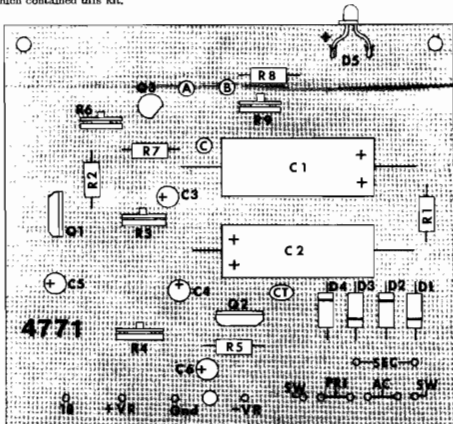

Figure 1 - Circuit board parts placement diagram
Solder each of the fixed resistors in place following the parts placement designators printed on the circuit board and the assembly drawing figure 1. Note that the fixed resistors are non-polarized and may be mounted with either of their leads in either of the holes provided. Insert both leads in the mounting holes and push the resistor **FULLY** against the board. On the conductor side of the board, bend the leads outward to about a 45 degree angle to help hold the component in place. **AFTER SOLDERING**, clip off each lead flush with the solder joint.
- () Install the LED. Note that, like other diodes, LEDs are very sensitive to heat. During the installation procedure, follow the heat sinking technique used earlier for transistors and diodes. Also note that the LED is polarized. The cathode, or negative lead of the diode, will be shorter than the positive lead, and/or will be adjacent to a small "flatted" spot on the side of the LED package. Before installing the LED in the flea clips, it will be necessary to form the LED leads. VERY CAREFULLY work the LED leads apart and bend as shown in figure 1. While working with the LED, note that the small plastic body is very fragile and can easily break if you are not careful to bend only the lead instead of just pushing the lead to one side. Do not put excessive stress on the LED body. When properly installed, the LED leads will be flush with the top of the flea clips, and when looking straight down on the LED/circuit board assembly, the rear edge of the LED case should be even with the front edge of the circuit board. Carefully solder in place. Trim excess leads after soldering.